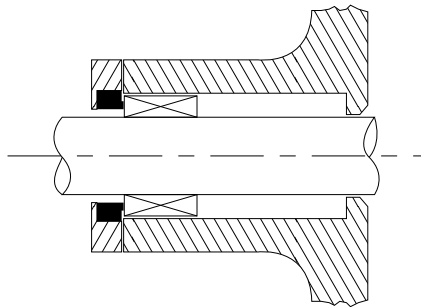

FIGURE 40. Single Internal Seal
- The rotating assembly of the seal is located in the liquid that is being pumped (Figure 40).